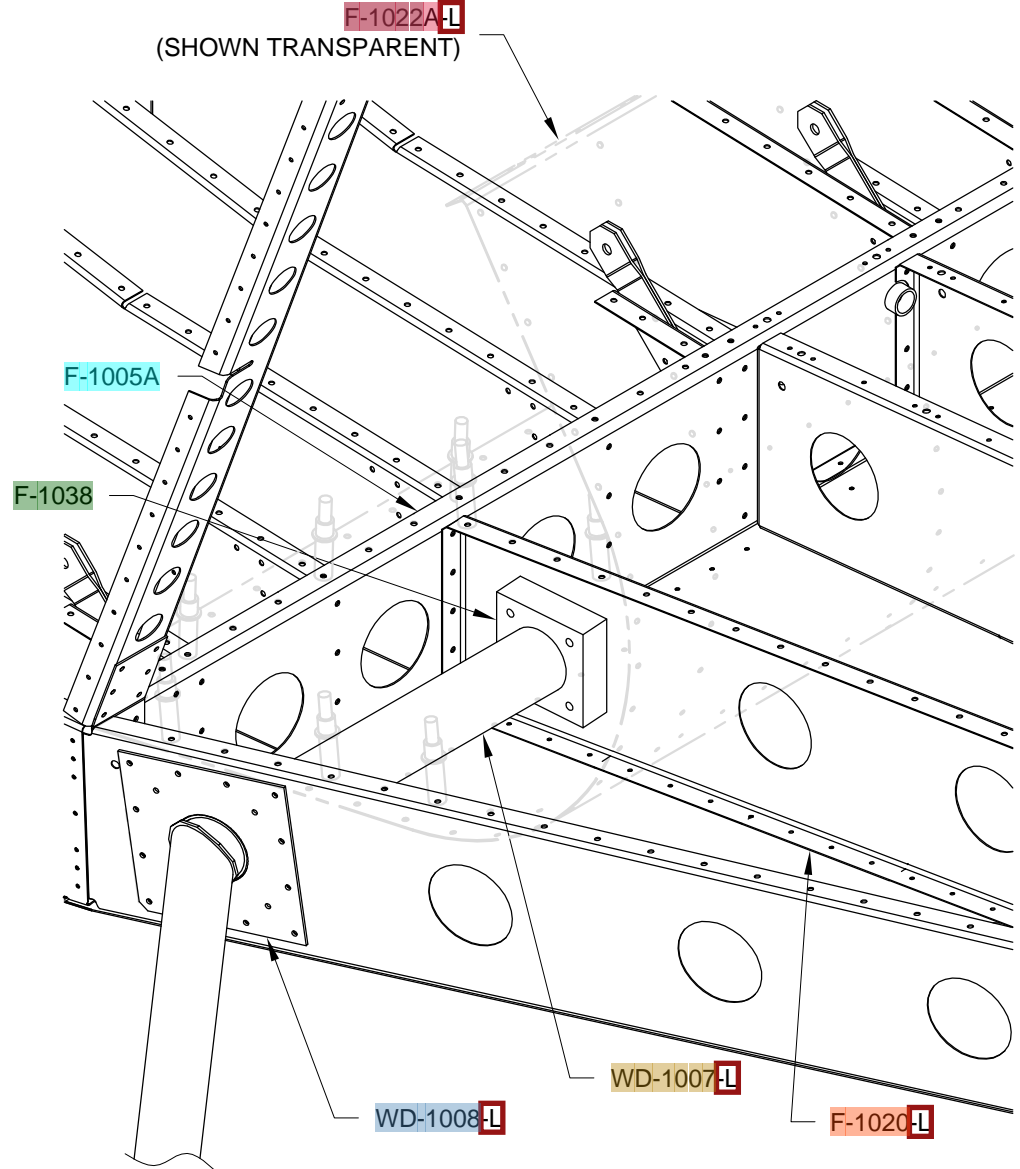

FIGURE 3: DRILLING THE SUPPORT BLOCK ATTACH HOLES
Step 4: Cleco the forward portion of the F-1022A Baggage Floor to the fuselage as shown in Figure 3. To keep the free end the baggage floor out of the way cleco the aft flange to the holes along the lower edge of the F-1034B Seat Back Brace, see Section 29.